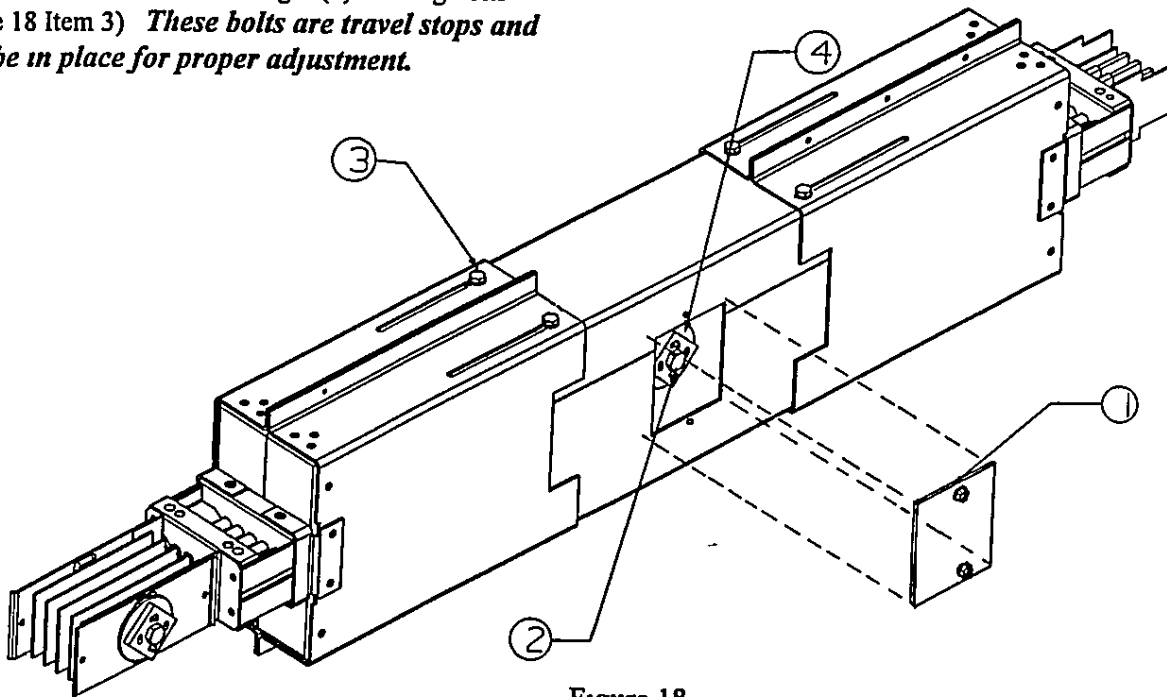

Figure 18
Remove the through bolt inspection plate (Figure 18 Item 1) from the Phase side only
Loosen but do not remove the through bolt in the center of the Adjustable Straight Length (Figure 18 Item 2)
Loosen but do not remove the eight (8) housing bolts (Figure 18 Item 3) ***These bolts are travel stops and must be in place for proper adjustment.***
Torque the joint through bolt to 50 foot-pounds Verify that the belleville spring washer (Figure 18 Item 4) has flattened after tightening